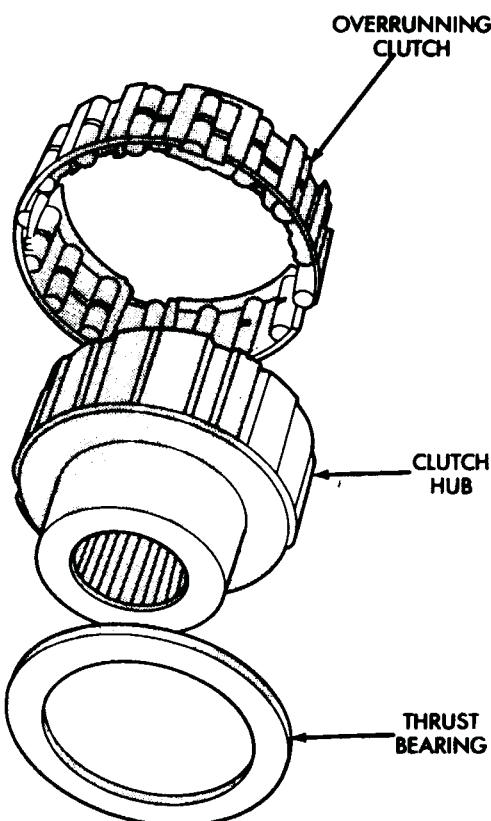

Fig. 28 Overrunning Clutch Components
- (17) Remove thrust bearing from overrunning clutch hub (Fig. 28).
- (18) Remove overrunning clutch from hub (Fig. 28).